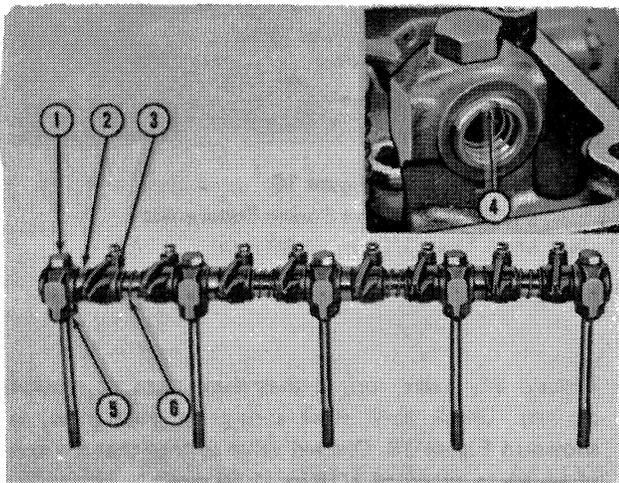

Figure 19
To disassemble the rocker shaft assembly, remove the bolts that attach the rocker shaft to the cylinder head from the rocker shaft supports, Figure 19.
1. Reassemble the rocker arm and shaft assembly as shown in Figure 19.
5. Be sure the springs and spacers are in their correct position, as shown in Figure 19, then proceed with the assembly.